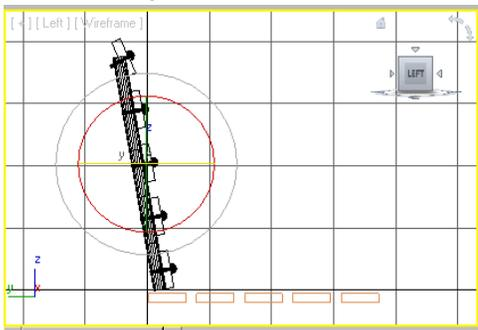

Figure 2-74 Rotating back support in the Left viewport
2. Move the cursor over the Z-axis, which is blue in color; the Z-axis turns yellow and becomes active. Now, press the left mouse button and drag the cursor counterclockwise to rotate the back support until the value in the **Z** spinner in the coordinate display becomes **10**. Release the left mouse button; the *back support* group is rotated, as shown in Figure 2-74.